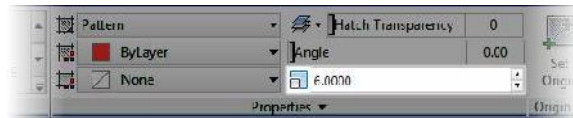

FIGURE 11.3 Setting the Hatch Pattern Scale on the contextual Hatch Creation tab
8. Enter 6 (150) in the Hatch Pattern Scale text box and press ↵, as shown in Figure 11.3.